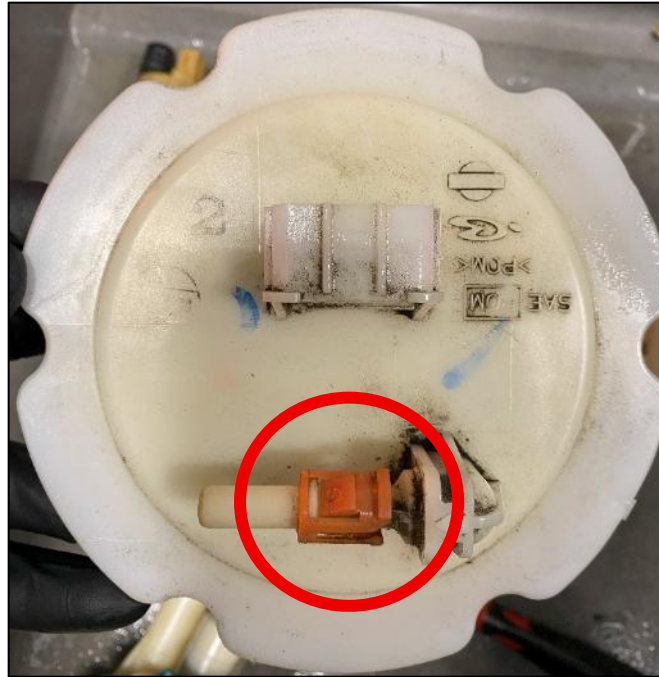

Figure 4
10. Remove the Plastic Quick Disconnect Fitting from the OE Fuel Feed Tube. Sometimes it will stay within Quick Connector and will have to be removed from it. Retain this Plastic Fitting as it must be reused. *Figure 4.*